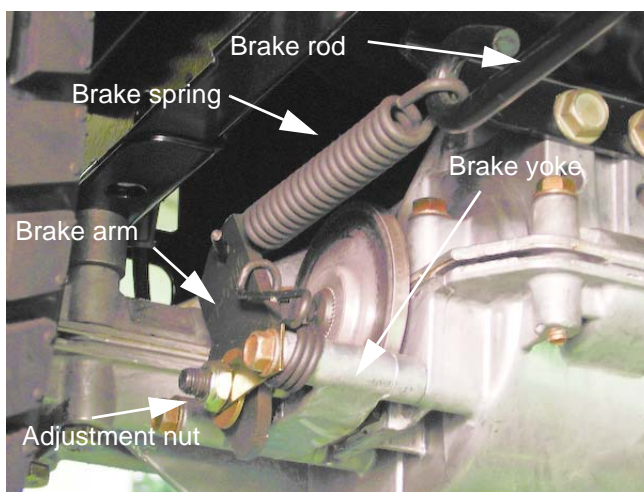

Figure 5.4
- 3b. If the linkage is working properly, but the brakes seem to be dragging, check the brake yoke. The linkage is not adjustable. See Figure 5.4.